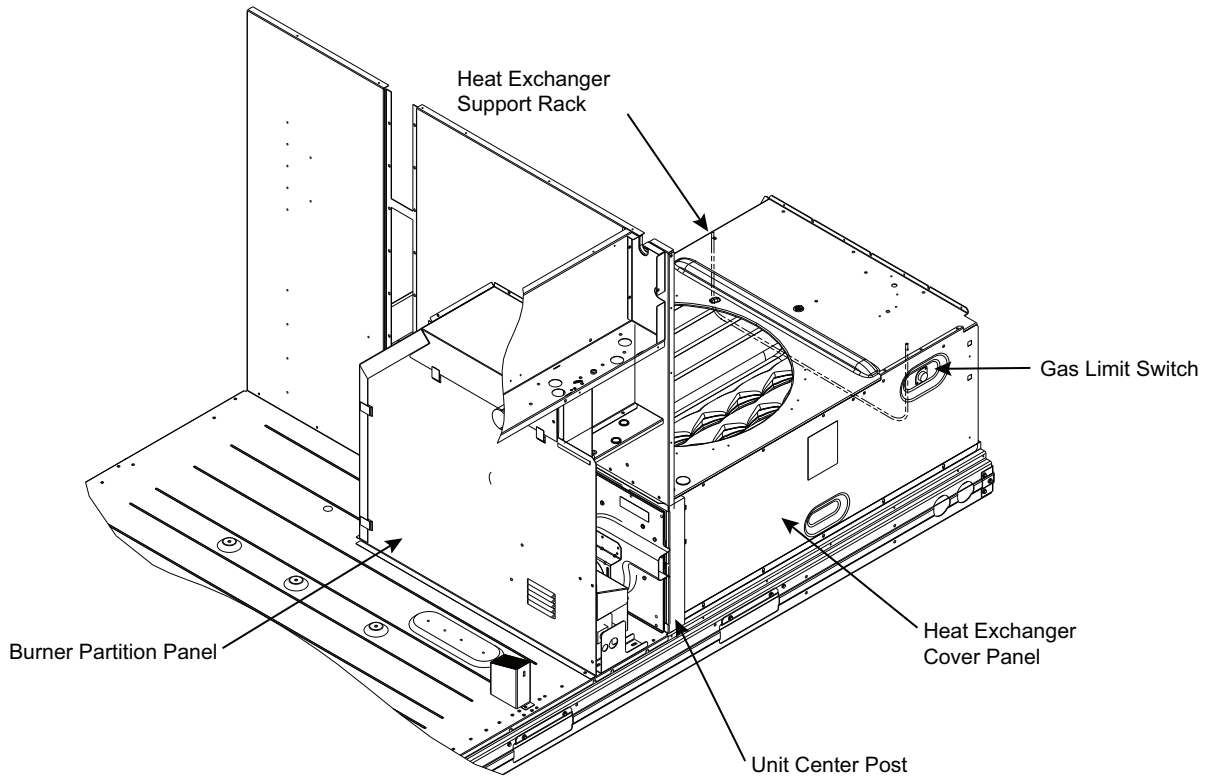

Fig. 52 — Heat Exchanger Access - Internal Panels, Center Post and HX Rack Locations
1. Remove the screw at the base of the burner partition panel (see Fig. 52) and slide out the panel.
5. Remove the screw at the base of the burner partition panel (see Fig. 52) and slide out the panel.
3. Remove the unit center post (see Fig. 52).
Remove the indoor blower access panel. Limit switch is located on the heat exchanger cover panel. See Fig. 52.